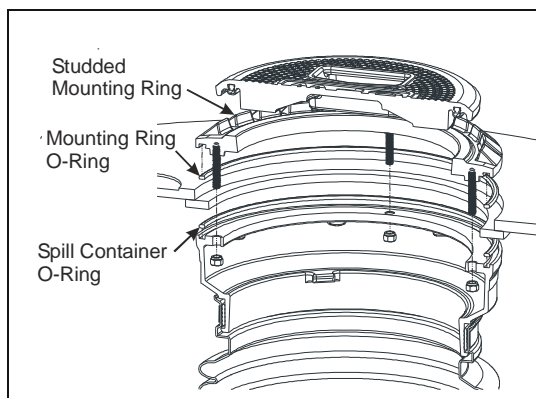

Figure 5
10. Inspect the spill container O-Rings and Mounting Ring O-Rings for damage. Replace if they are damaged. (See Figure 5)
15. Place the mounting ring over the spill container and rotate the mounting ring until the studs are aligned with the spill container ring holes. (See Figure 5.)